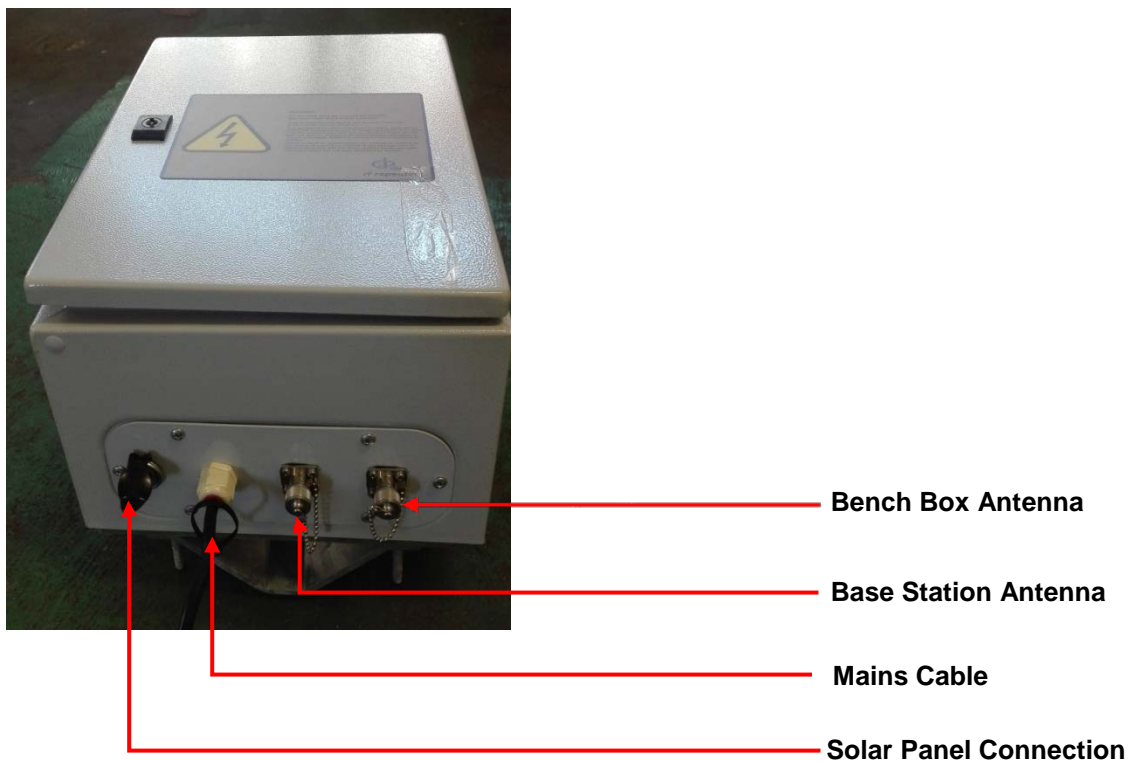

Figure 3: Cable Connectors
- Figure 3: Cable Connectors 10
- ❏ Place the antennas in such a way that there is a clear line of sight between the Base Station and Bench Box RF antenna and the RF Repeaters corresponding antenna. (Also refer to figure 3)